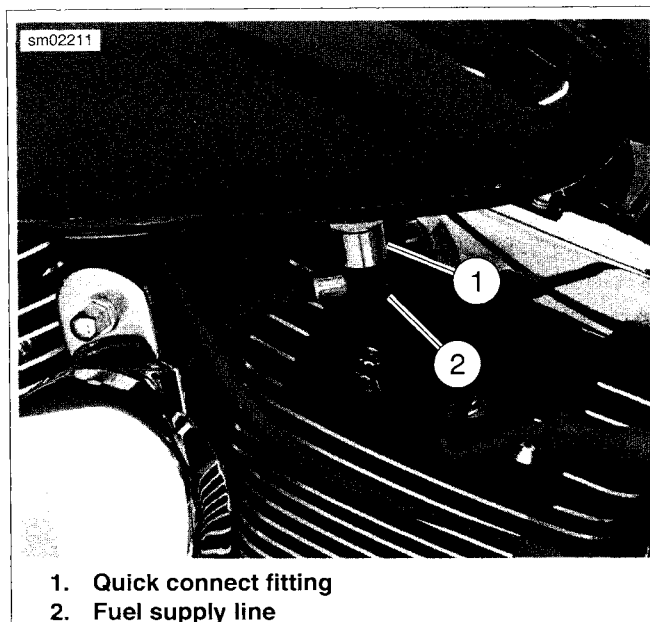

Figure 4-17. Fuel Supply Line Fitting
3. See Figure 4-17. Pull up on chrome sleeve of quick-connect fitting (1) and pull down on fuel supply line (2) to disconnect.
5. See Figure 4-17. Install fuel line fitting.